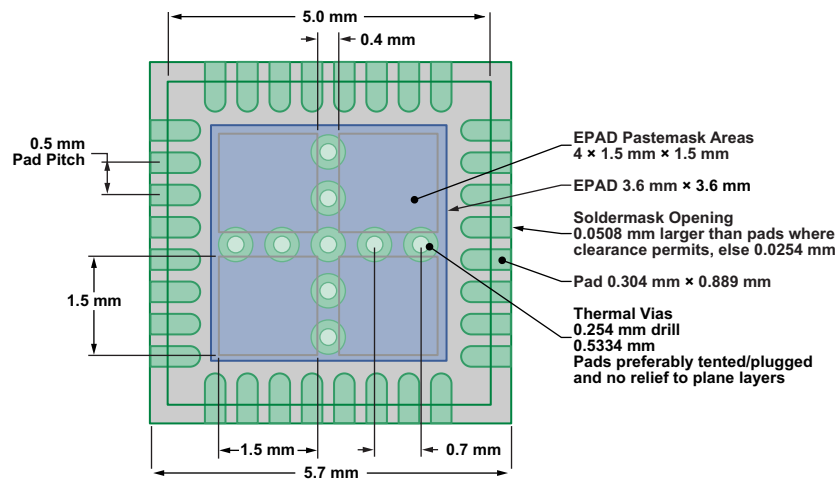

Figure 39. Transceiver Footprint
- Solder the exposed paddle underneath the transceiver effectively to the PCB where it is locally connected to the ground plane. Figure 39 shows transceiver foot print, recommended solder mask (matching exposed paddle), paste mask (dividing exposed paddle), and stitching of the ground plane.